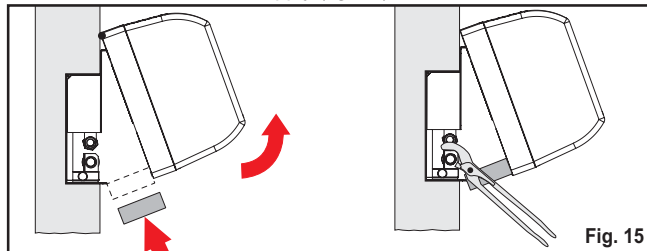

Fig. 15
- 5) Tilt the fan coil and insert the relative polystyrene foam spacer so that the valves can be easily reached and connected to the appliance and to the mains water supply (fig. 15)